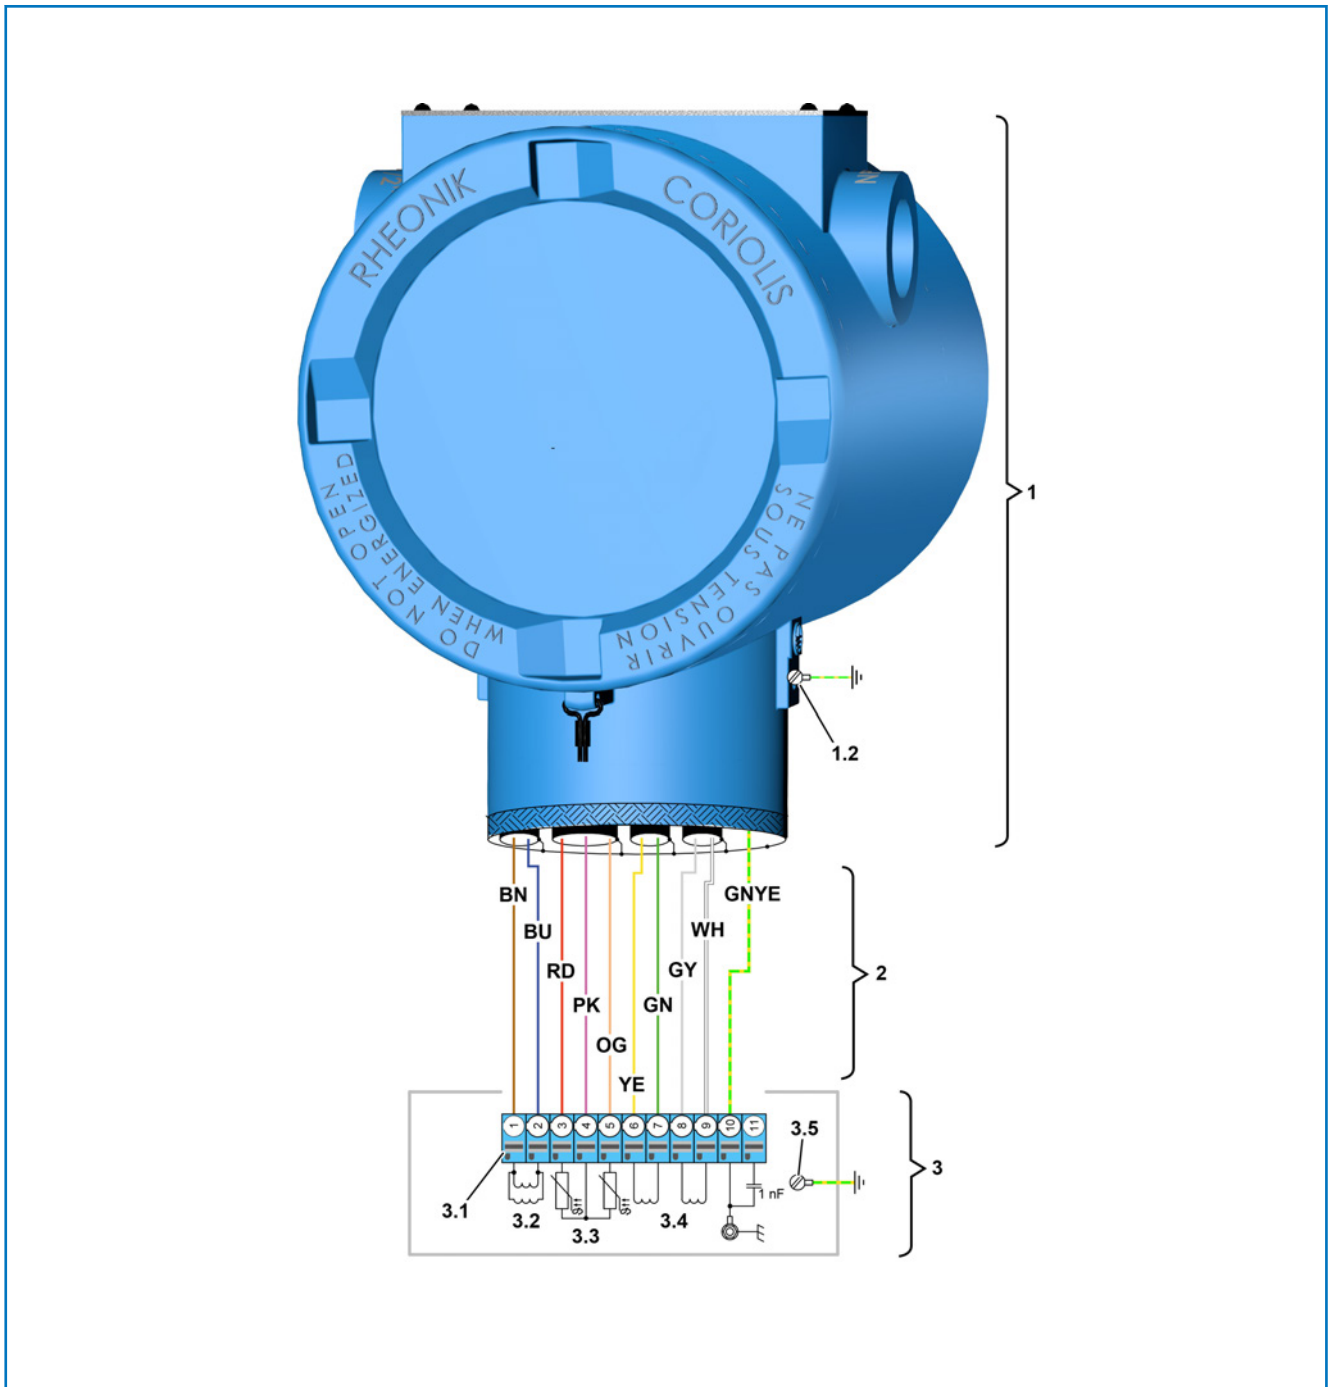

Fig. 6: Wiring diagram for the RHE42-R* Coriolis transmitter to the RHM Coriolis sensor
2. Undo the cable gland on the RHM Coriolis sensor (3).
3. Unscrew the fastening screws on the cover of the RHM Coriolis sensor (3) and remove the cover.
4. Guide the connecting cable (ARHE-Cx) (2) through the housing to the connection terminal (3.1).
5. Connect the connecting cable (ARHE-Cx) (2) to the RHM Coriolis sensor (3) in accordance with the wiring diagram; see: Figure 6.